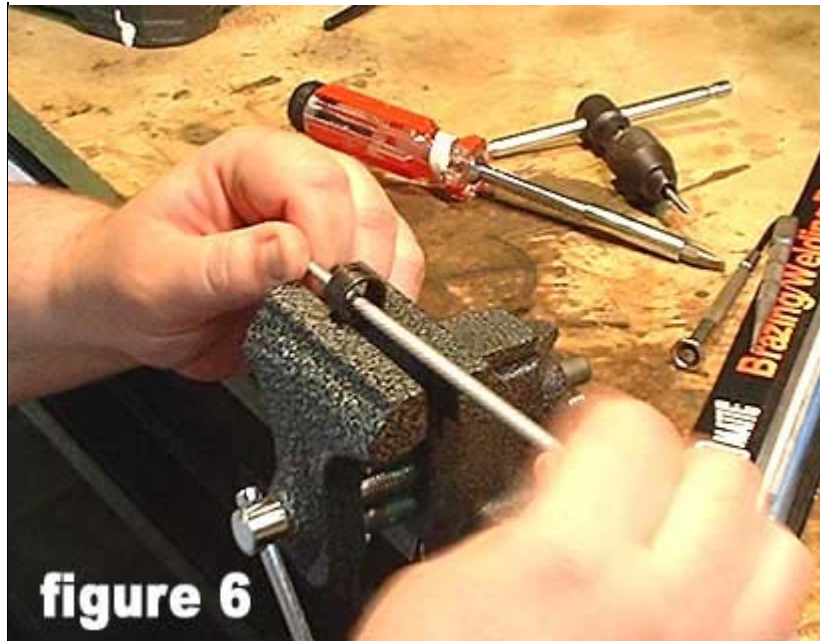

figure 6
2) Using a pair of needle nose pliers, gently work the old sight post back and forth (**figure 5**) until it breaks off at its base. You may be able to drive out the old sight post from the top. If the post does not break off flush from its base, use a small half-round file to file it flush (**figure 6**).